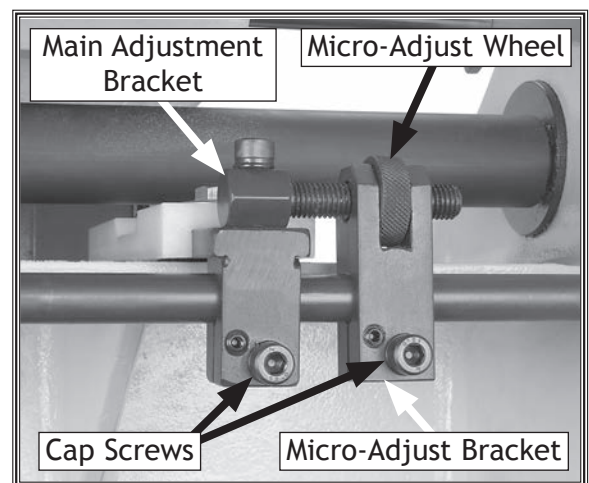

Figure 28. Horizontal fence adjustment components.
8. Familiarize yourself with the horizontal fence adjustment components in **Figure 28**.
9. Loosen both cap screws shown in **Figure 28**.